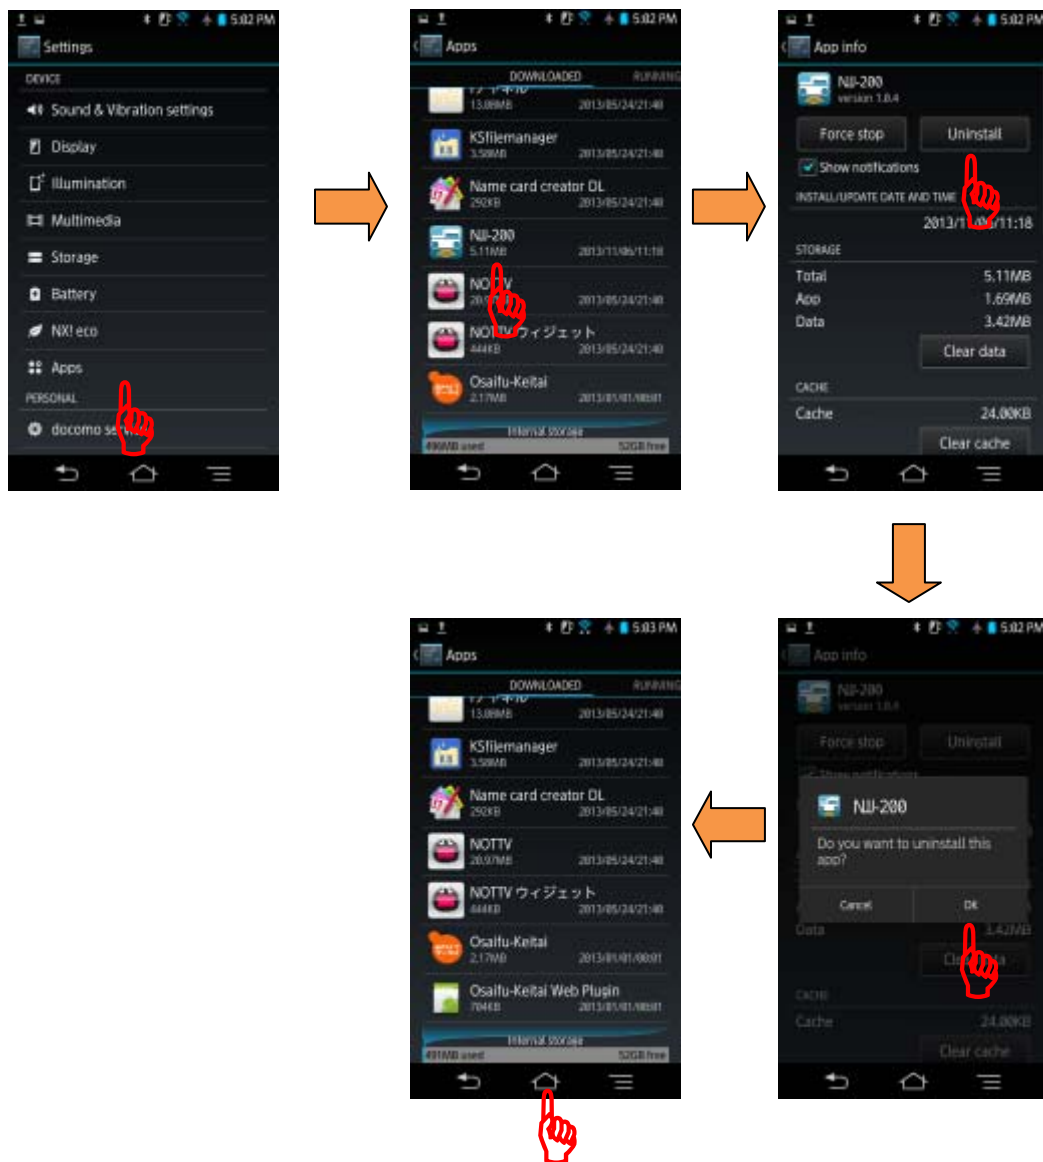

Figure 6-27 Uninstall NJJ-200 application
- (1) Uninstall NJJ-200 application software from Smartphone by performing the following procedure.
- e) Tap the home button, then the screen returns to the home screen. (Refer to Figure 6-27.)